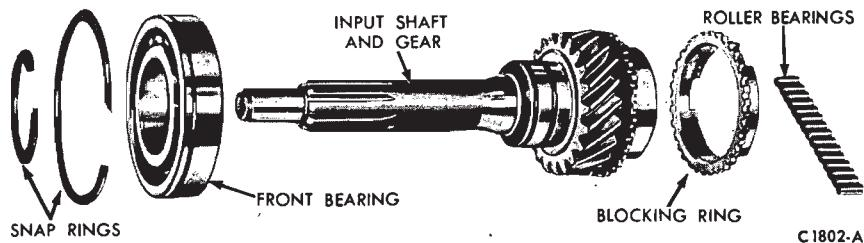

FIG. 16—Input Shaft Gear Disassembled
1. Remove the snap ring securing the input shaft bearing (Fig. 16), and press the input shaft out of the bearing.
9. Coat the bore of the input shaft and gear with a thin film of grease. A thick film of grease will plug the lubricant holes and prevent lubrication to the bearings. Install the 15 bearings (Fig. 16) in the bore.